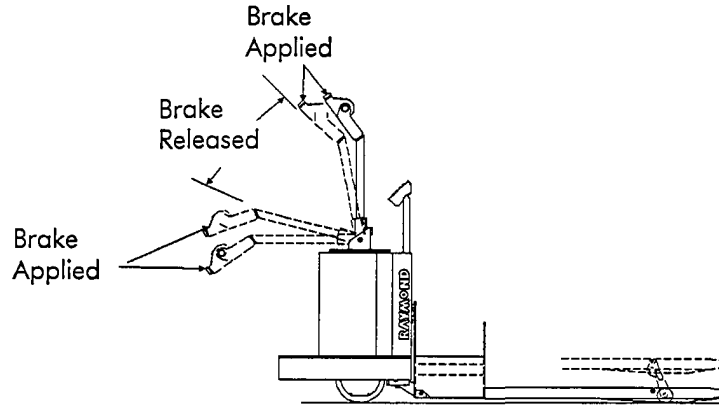

Figure 3.3
The brake is applied only when the handle is in the positions shown in Figure 3.3. Check the brake for proper operation and make sure it is not dragging in the Brake Released position. (Refer to Step 10 of Receiving Inspection Guide on page 3.7).
- forward travel is locked out until reset by turning the keyswitch off or moving the control handle to the brake applied position. (See Figure 3.3.)